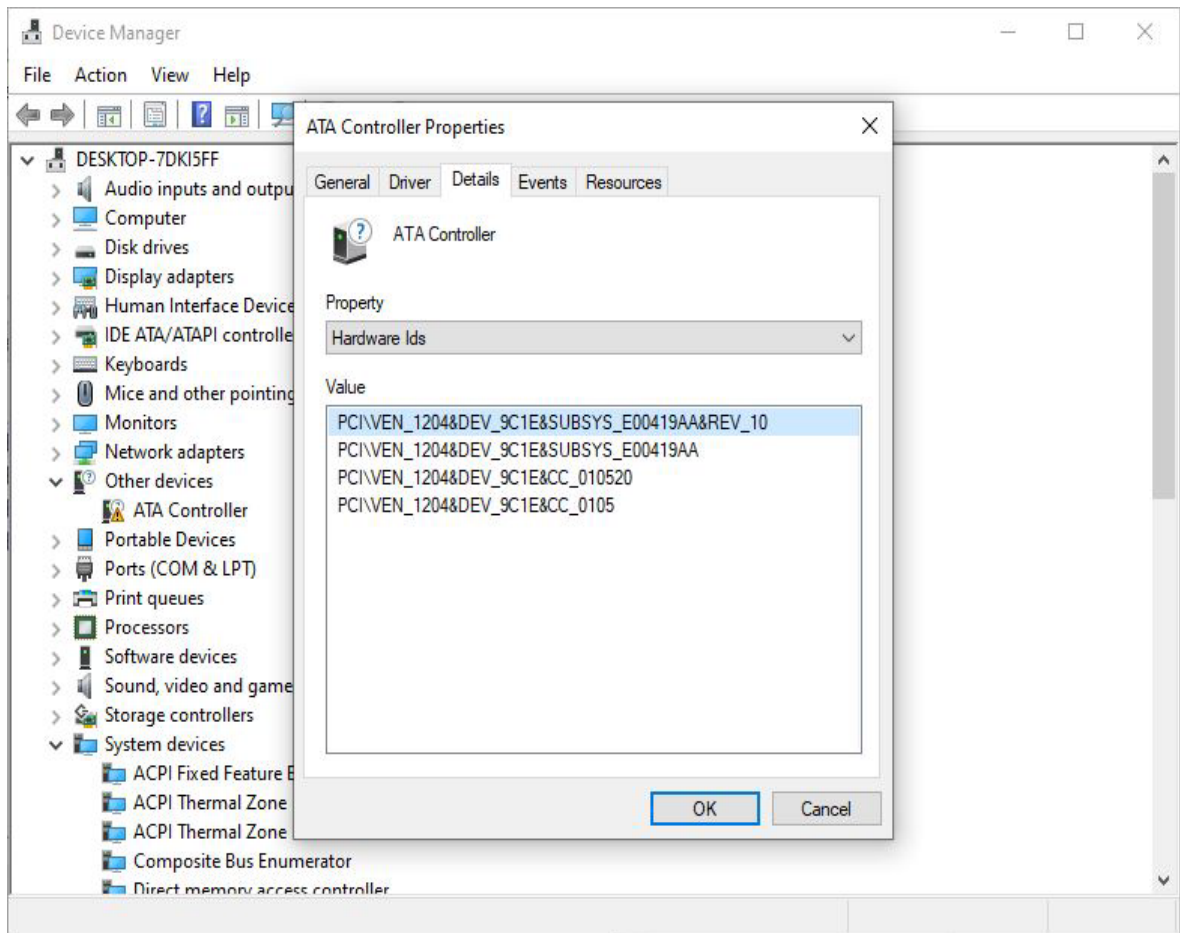

Figure 3.33. Hardware IDs of CrossLink-NX DMA Throughput Demo Device
- For CrossLink-NX family, the Hardware IDs of the Base System Device for the DMA Throughput Demo is `PCI\VEN_1204&DEV_9C1E&SUBSYS_E00419AA` as shown in Figure 3.33.